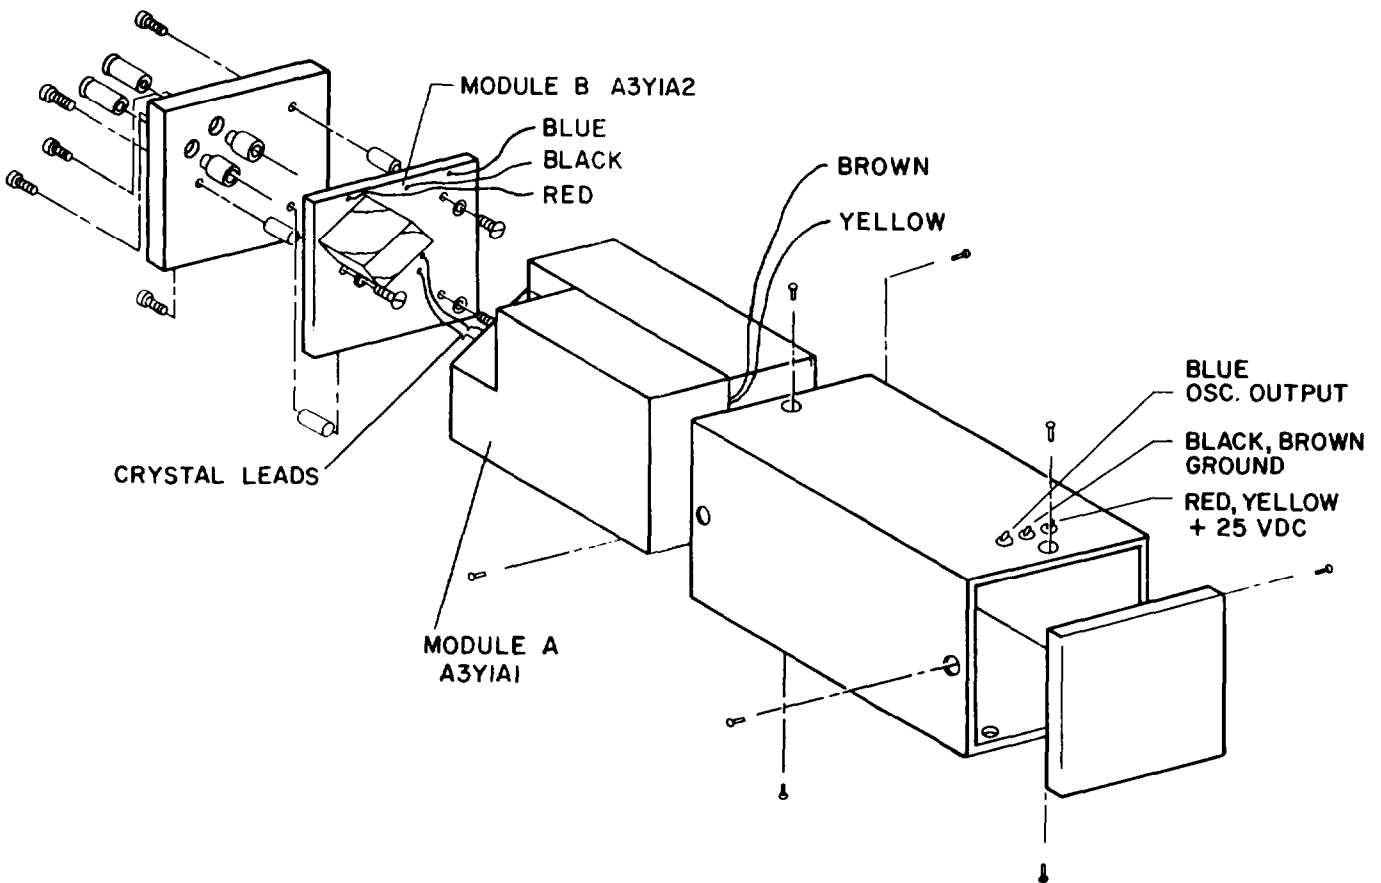

Figure 5-33. Disassembly of 1-MC Oscillator A3Y1. (ELECTRONIC RESEARCH CO.)
(1) Disassembly of the 1-MC oscillator is described in SECTION 4, TABLE 4-4; also see figure 5-33. After replacement of module A or module B, the reverse procedure should be used to reassemble the oscillator.